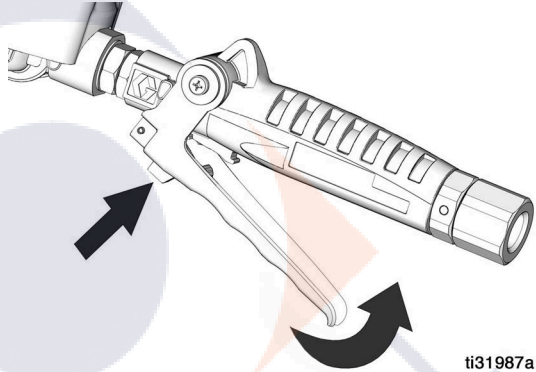

FIG. 10
- 2. Fully depress the trigger lock button and squeeze the trigger toward the valve body (FIG. 10).